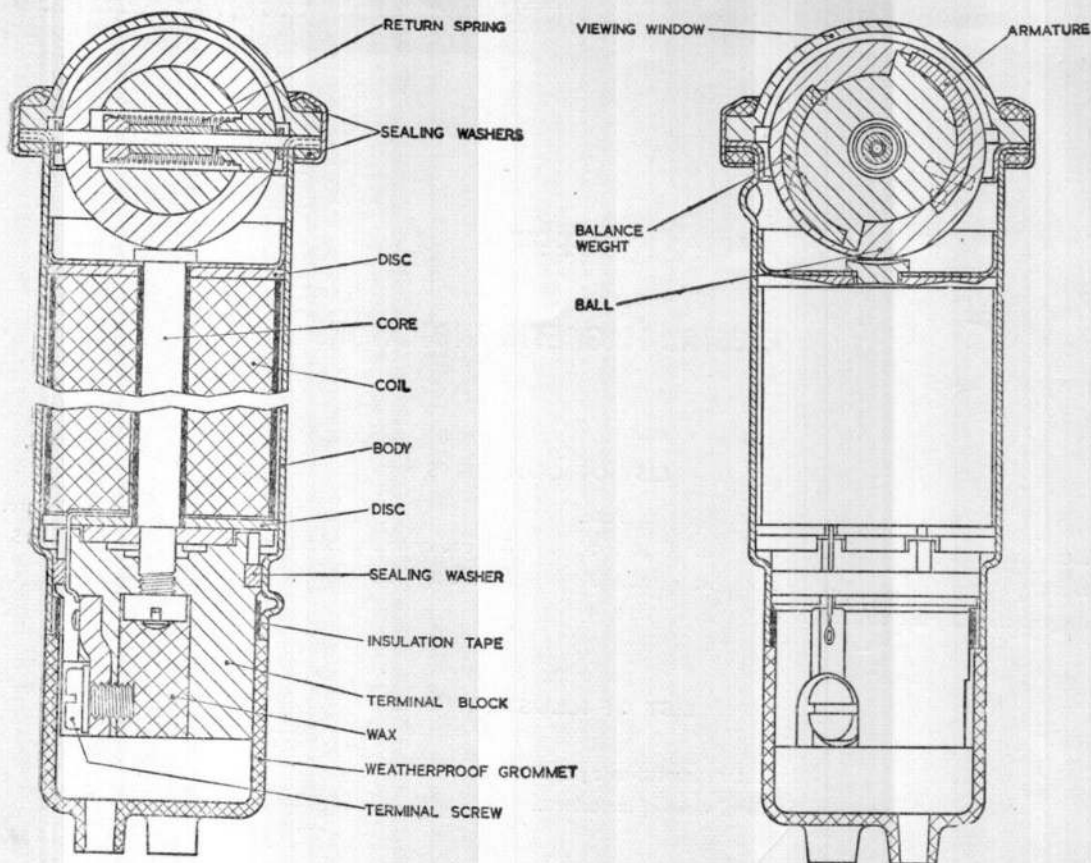

Fig. 2. Sectional views of indicator
4. The magnet assembly inside the body consists of a coil wound on a soft iron core (fig. 2) with a soft iron disc at each end of the coil. The coil ends are soldered to two terminals on a terminal block at the bottom end of the coil, and two 6 B.A. screws in the terminal block are used for external electrical connection to the indicator. The terminal